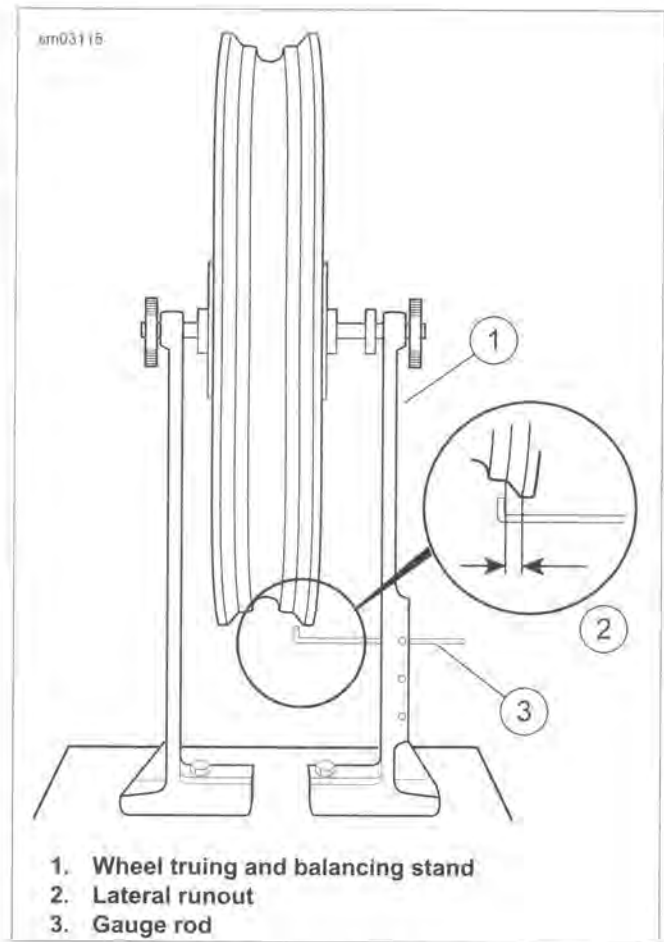

Figure 2-45. Checking Lateral Runout
1. See Figure 2-45. Adjust the gauge rod (3) near to the rim bead flange. If using a dial indicator, place the tip against the bead flange.
2. Rotate the rim slowly to check lateral runout (2). If runout exceeds 0.030 in (0.76 mm), adjust spokes: